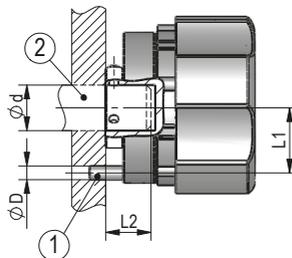
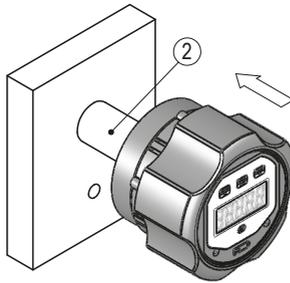
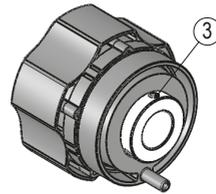

Fig. 1: Mounting dimensions
Fig. 2: Mounting
Fig. 3: Fastening torque
- ▶ Ensure a low shaft and angle offset between shaft and accommodation bore by applying appropriate manufacturing methods (see Fig. 1 + Tab. 1).
Preparing mounting (Fig. 1, Fig. 2, Fig. 3):
Mounting (Fig. 1, Fig. 2, Fig. 3):